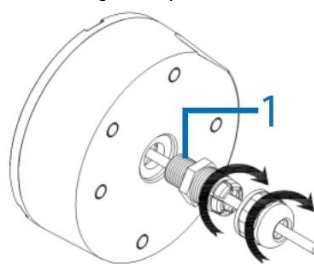
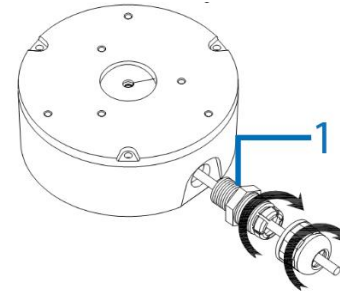

Figure 4
Figure 5
- Insert the camera cable through the hole at the bottom of the junction box (Figure 4) **or** use the cable side entry hole (Figure 5) on the junction box.
- Insert the camera cable into the waterproof compression gland (1) (Figure 4 / Figure 5) and securely insert the compression gland into the hole at the bottom of the junction box **or** the cable side entry hole on the junction box.